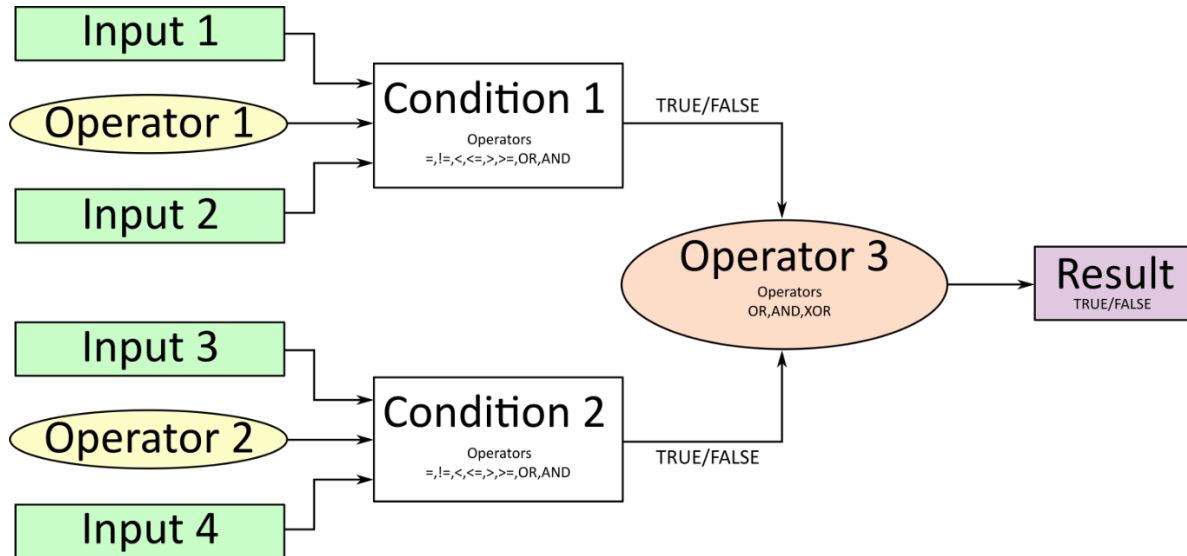

Figure 3: Conditional Block Diagram
The Conditional Block compares up to four different input sources with different logical or relational operators. The result of each block can therefore only be true (1) or false (0). Figure 3 demonstrates the connections between all parameters.